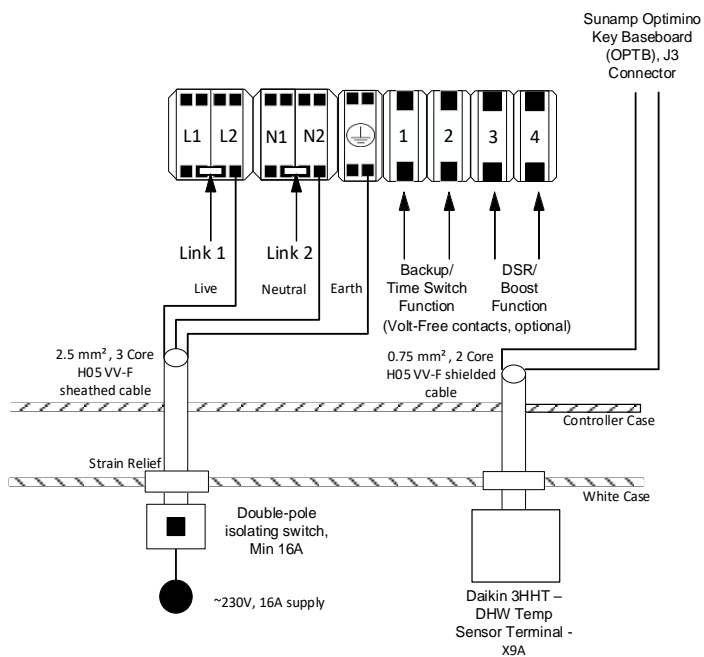

Figure DN.1 - Thermino xPlus with DN01 Optimino key
- Thermino xPlus with the “DN01” & “DN02” Optimino keys (D0084 – Section 6.4.2 for wiring instructions & Figures DN.1 & DN.2 below)
Using the Daikin Tank sensor part (C2294) supplied in optional kit A1135, the cable (C2294) will act as a hot water heating tank sensor from the Sunamp Optimino key baseboard (OPTB) – terminal J3 into the Heat Pump Interface controller PCB Terminal – (DHW Tank sensor – X9A) terminal (please refer to HP installation manual). Please run the wire into the heat battery appliance via the appliance case cabling grommets and then into the control box housing through the hole available. Secure the cables in terminals J3 on the Optimino Board, please see Figures DN.1 & DN.2 below for reference.